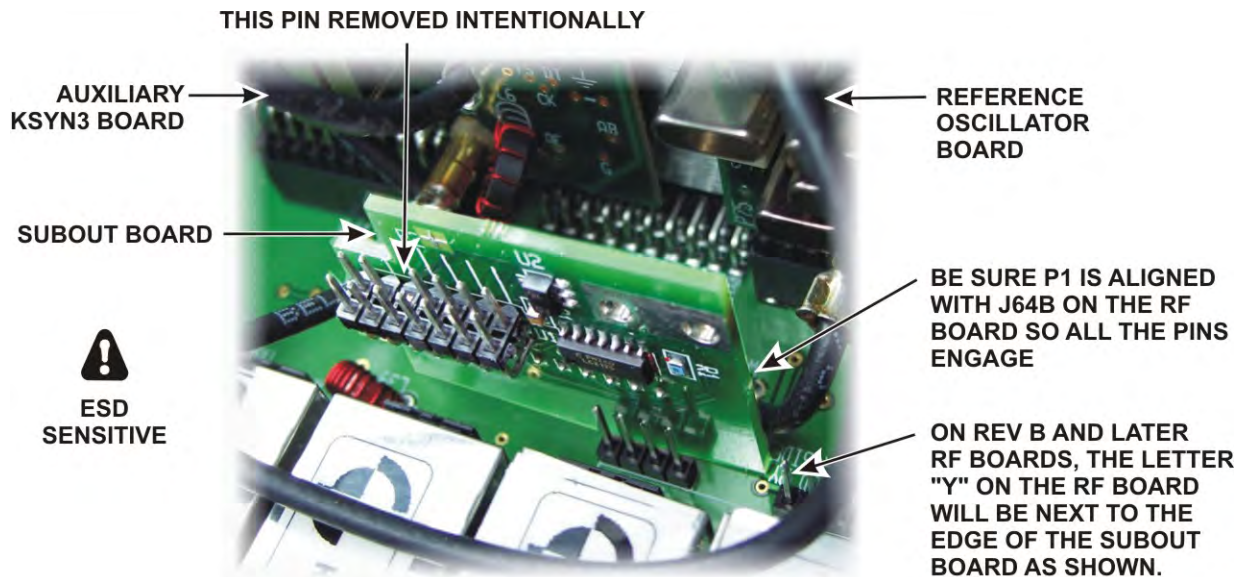

Figure 47. Mounting the SUBOUT Interface Board.
□ Plug the SUBOUT interface board in J64B on the K3 RF board as shown in Figure 47. J64B is between the K3 roofing filters and the front panel. **Be certain the SUBOUT board is aligned so all pins of P1 are engaged with J64B.**